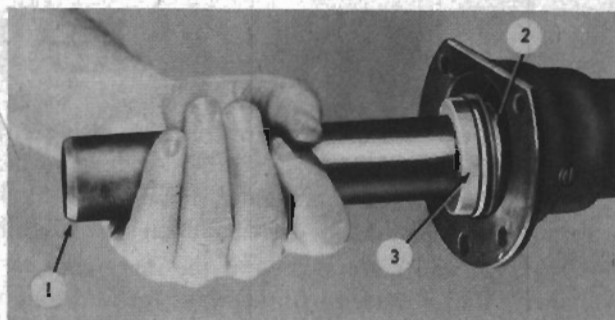

FIG. 1
Install a new inner oil seal in the housing, using Bearing Cup Replacer Set Handle J-872-5 (1, Fig. 1) with Disc J-270-6 (3) to prevent seal distortion.